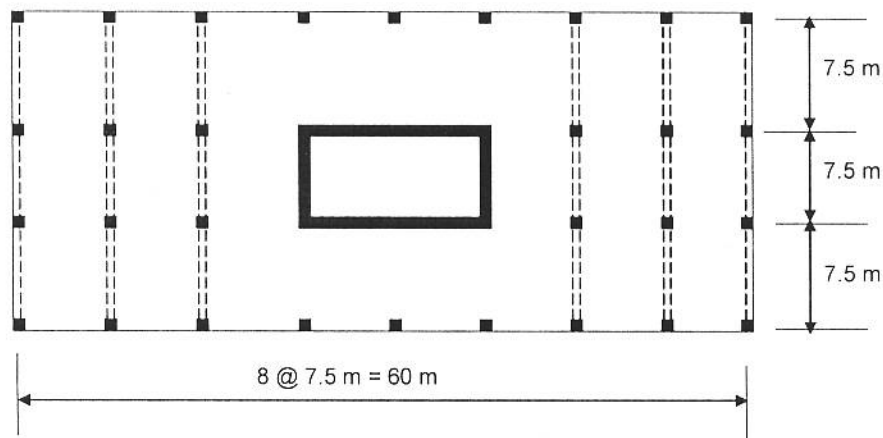

Fig. 4: Plan of a shear wall-frame structure
4. Figure 4 shows the floor plan of a reinforced concrete shear wall-frame structure. The horizontal resistance to wind acting on its long side is provided by six rigid frame bents and a central core. Calculate the bending moment at the base of the core wall and shear force at the base of the frames. Neglect the effect of openings in the concrete wall. Use the charts prepared by Heidebrecht and Stafford Smith. The relevant data are given below: (25)